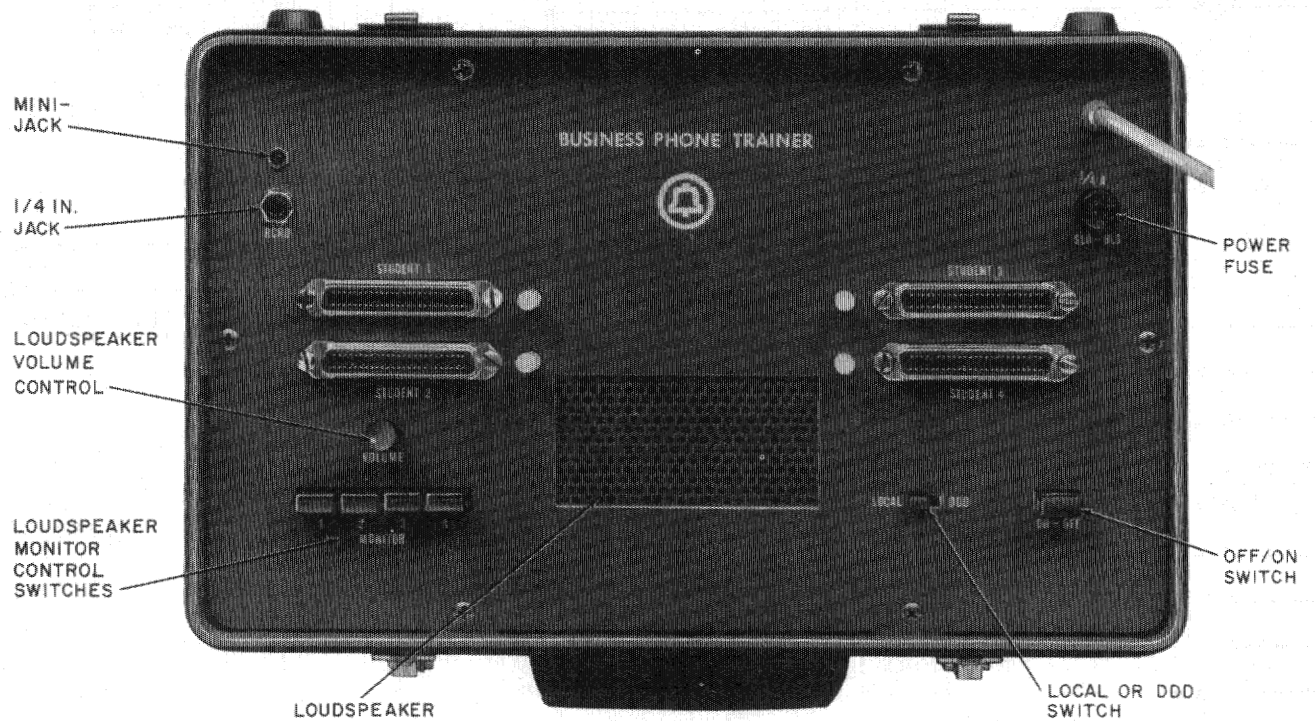

Fig. 1—KS-21564, List 5 Control Unit
**2.03** The KS-21564,L5 (Fig. 1) control unit is housed in a metal carrying case approximately 10 inches high, 16 inches wide, 6 inches deep, and weighs about 15.5 pounds with the Bell System Emblem on the control panel faceplate and consisting of:
*The KS-21564,L5 (Fig. 1) is equipped with plastic posts mounted at the top end of each KS-16672,L3 connector to prevent the station telephone set connector from being forced in backwards.*